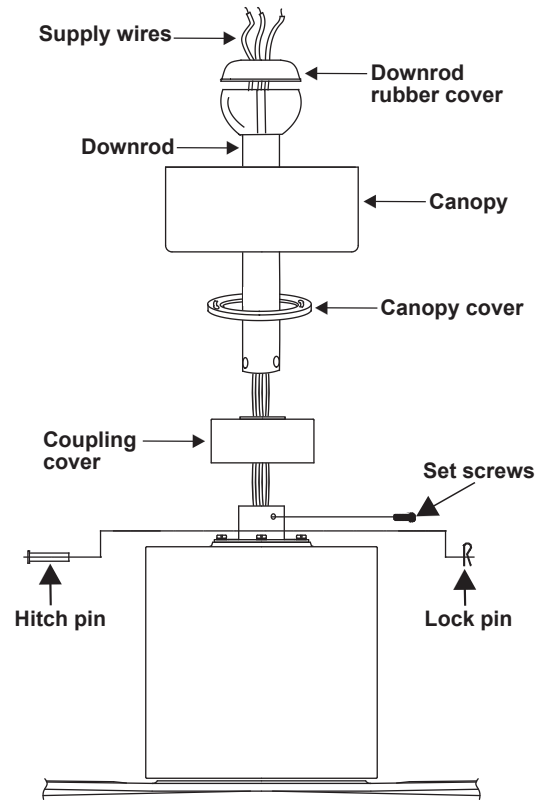

Figure 11
5. Loosen the two set screws and remove the hitch pin and lock pin from the central shaft/top coupling of the motor assembly. Doing so will allow the down rod to enter the central shaft. (Fig. 11)
6. Route wires exiting from the top of the fan motor through the coupling cover, canopy cover and canopy and then through the ball/downrod. Place downrod rubber cover onto the hanger ball (Fig. 11)
7. Align the holes at the bottom of the downrod with the holes in the collar on top of the motor housing. Carefully insert the hitch pin through the holes in the collar and downrod. Be careful not to jam the pin against the wiring inside the downrod. Insert the lock pin through the hole near the end of the hitch pin until it snaps into its locked position. (Fig. 11)